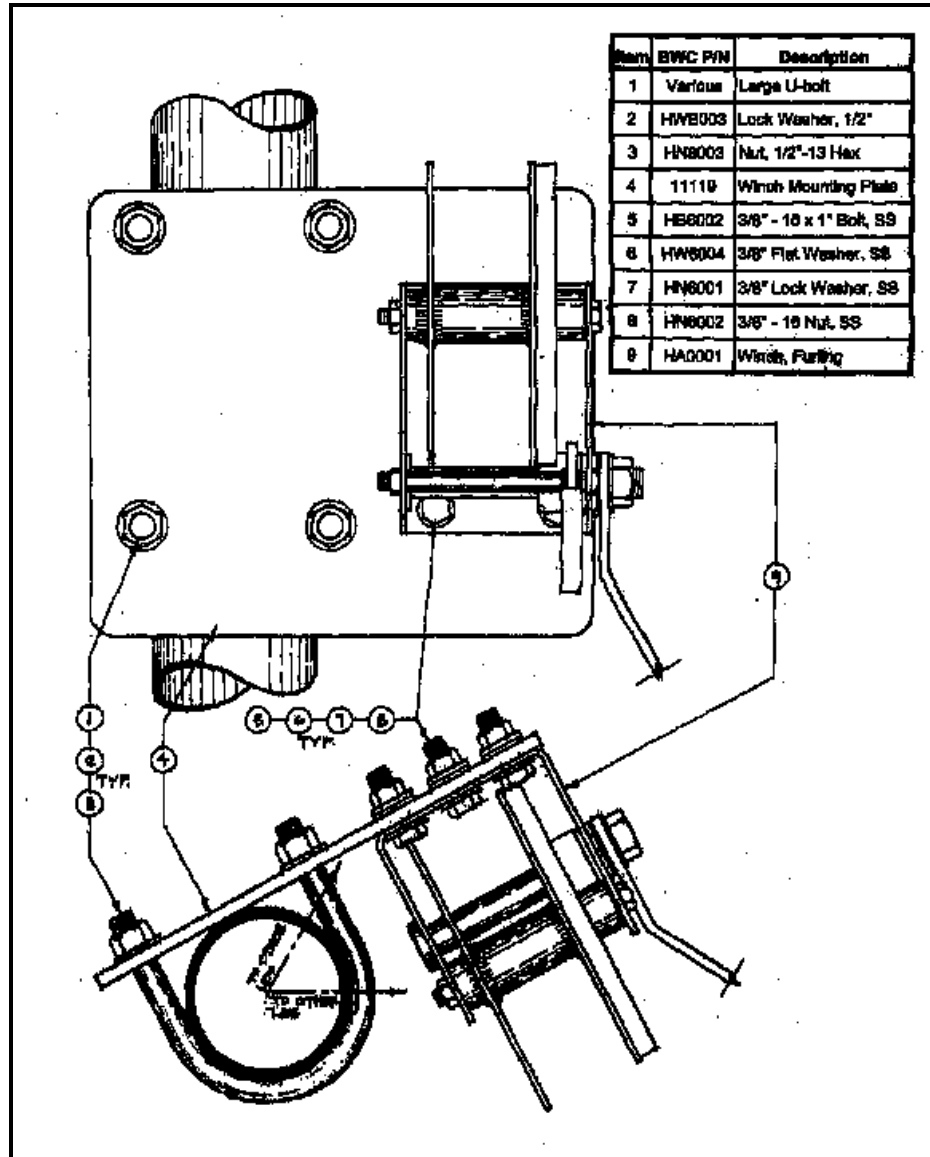

Figure 13. Winch Mounting on SSV Towers
2. Attach the winch mounting plate, included with the tower hardware kit, to one of the bottom tower legs using two U-bolts provided in hardware kit HK0019. Be sure to orient the winch plate properly. Refer to **Figure 13**. Locate the plate so it will be at a convenient height above ground when the tower is installed. The recommended mounting height for the